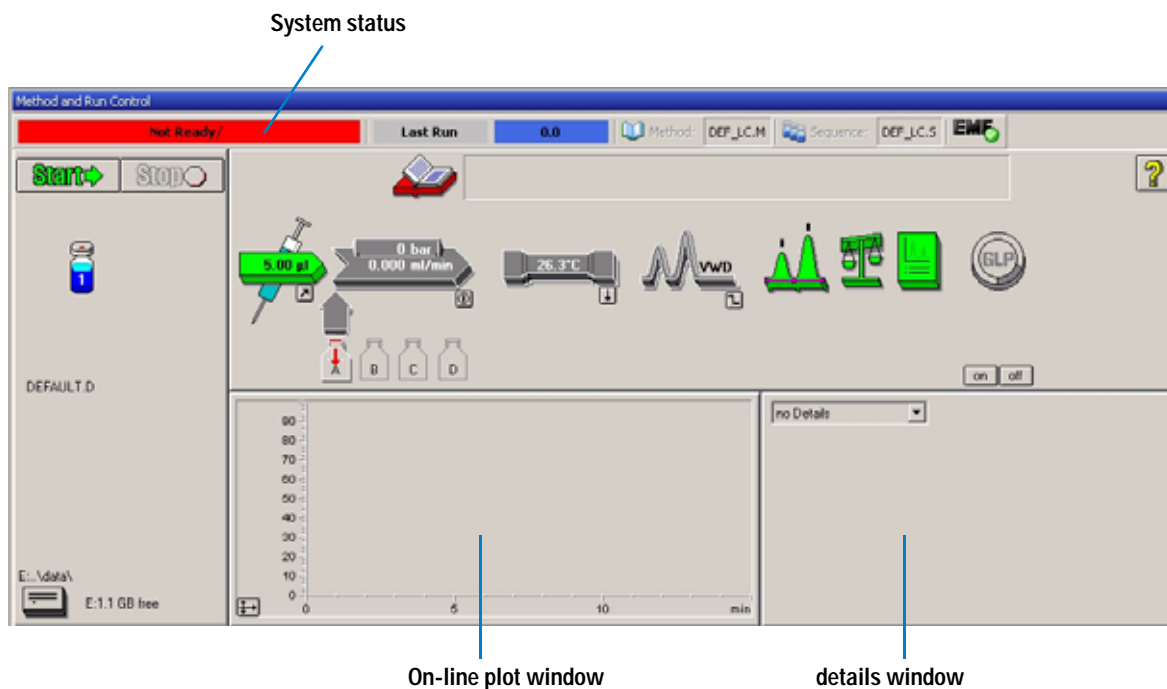

Figure 10 Initial ChemStation screen (Method and Run Control)
- 3 Start the Agilent ChemStation software (B.02.01). If the pump, autosampler, thermostatted column compartment and detector are found, the ChemStation screen should look like shown in Figure 10.